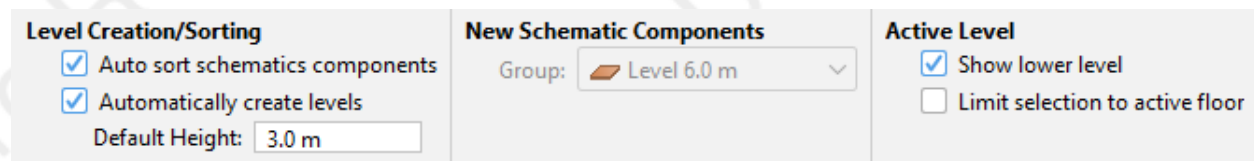

Figure 25. Level Creation Panel
When nothing is selected in the model and no tools are active, the **Level Creation** panel is shown, as in Figure 25. This panel controls the automatic creation of levels and automatic sorting of new objects into levels. It also provides some options for level view and selection.
2. Clear the selection so that the **Level Creation** panel is visible (Figure 25).